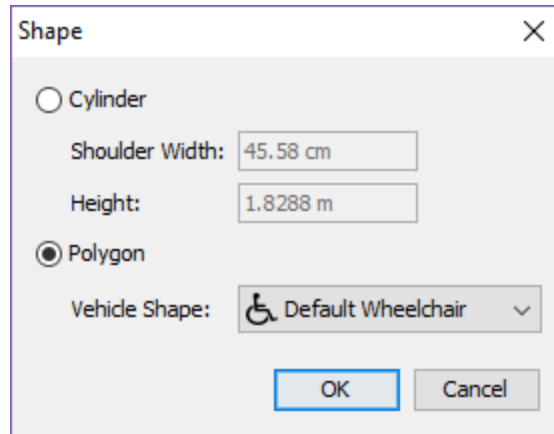

Figure 124. The Shape Dialog where a user may select a vehicle shape for a client
- Choose a **Vehicle Shape** for the client (see Section 5.1.9 and Figure 124) by editing the **Shape** parameter on the occupant properties panel. *All clients must have a vehicle shape* (see Section 5.2). Either choose a default shape or define a custom shape with user-defined positions for assistants.